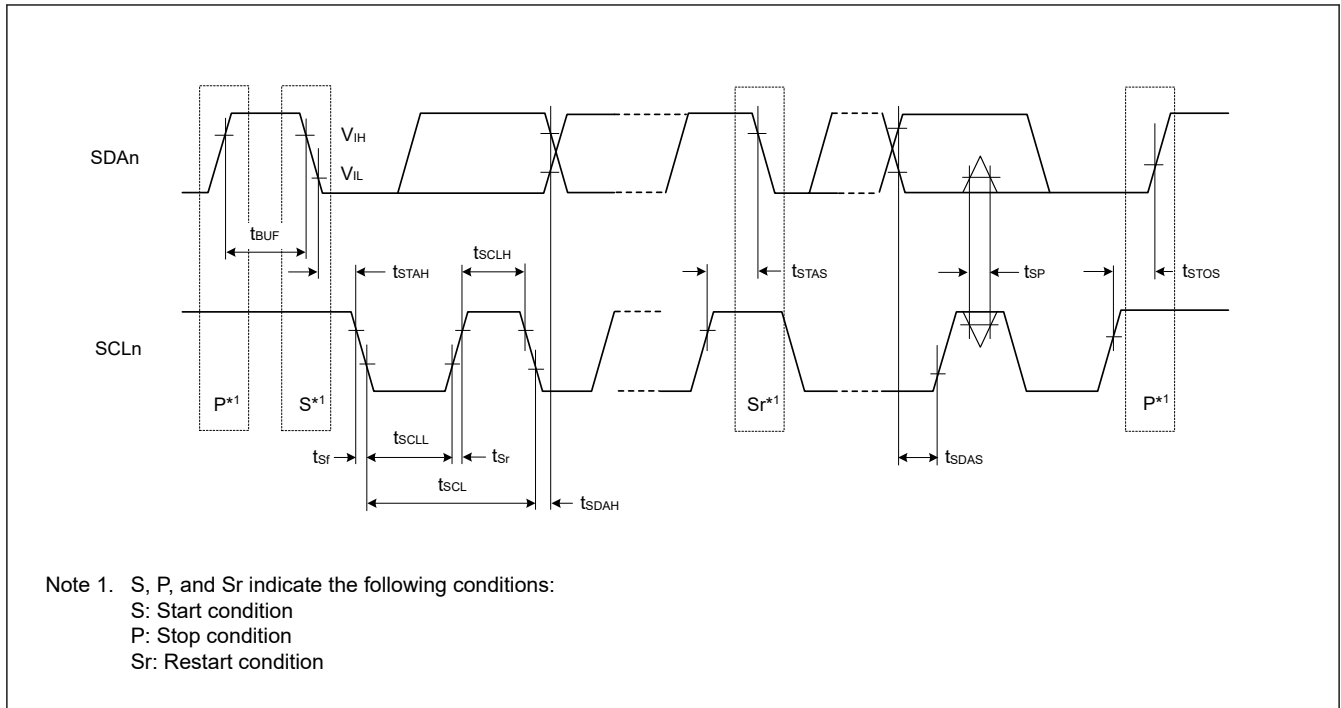

Figure 2.57 I²C bus interface input/output timing
| IIC (Standard mode, SMBus) ICFER.FMPE = 0 | SCL input cycle time | t_{SCL} | $6 (12) \times t_{IICcyc} + 1300$ | — | ns | Figure 2.57 |
| IIC (Fast mode) | SCL input cycle time | t_{SCL} | $6 (12) \times t_{IICcyc} + 600$ | — | ns | Figure 2.57 |
| IIC (Fast-mode+) ICFER.FMPE = 1 | SCL input cycle time | t_{SCL} | $6 (12) \times t_{IICcyc} + 240$ | — | ns | Figure 2.57 |